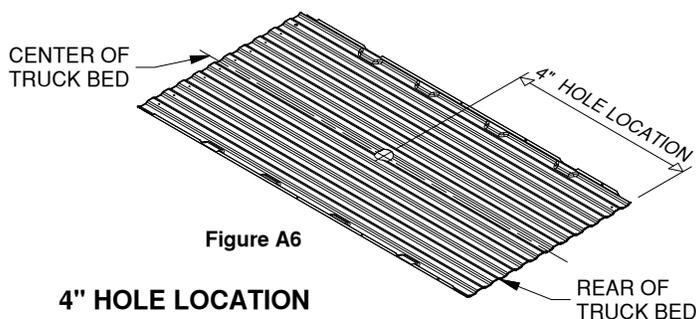

Figure A6
11. **Mark the 4" hole location.** Using a tape measure hooked over the rear edge of the bed (at tailgate end), measure the location for the hole as shown in Figure A6. Next, locate the center of the bed by measuring the distance between the wheel wells and dividing by two. The center of the hole will be at the intersection of the center of the bed and the first distance measured.